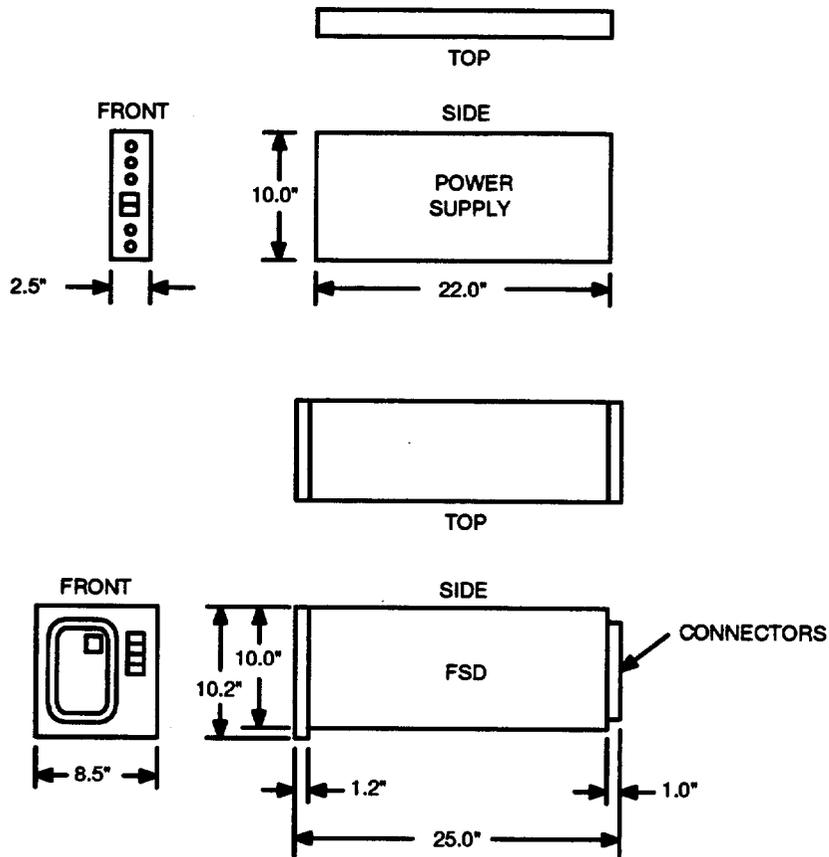

Figure 2. FSD With Remote Power Supply
2.02 The FSDs are installed in enclosures that are acoustically insulated to reduce noise level near the unit and to provide electromagnetic compatibility shielding. These enclosures measure 8.5 inches wide by 10 inches high by 25 inches deep. The disk drive unit weights approximately 70 pounds (Figure 2).
2.03 The operator control panel is located at the front of the disk drive unit. This panel measures 8.5 inches wide by 10.2 inches high by 1.2 inches deep (Figure 2).
2.05 Figure 2 shows the disk drive unit along with the power supply and the operator control panel. Table A lists the controls of the operator panel along with their functions.